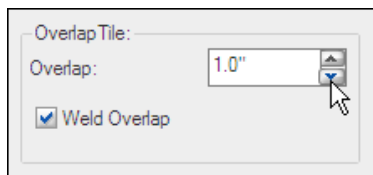

Figure 7—Overlap
1. In the **Tiling Setup** tab, select the **Overlap** option (see Figure 7).